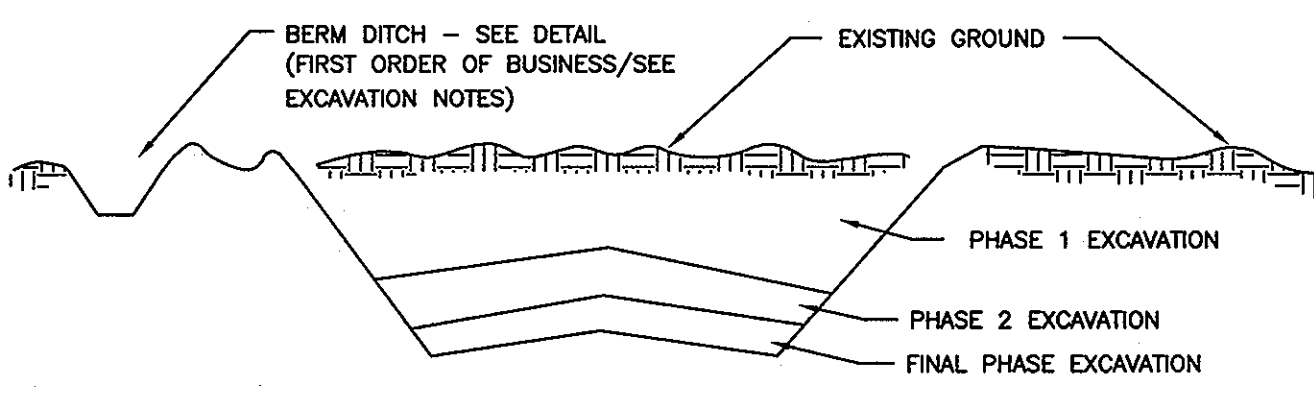

Figure 4 Incremental Stabilization - Cut
- i. A mulch anchoring tool is a tractor drawn implement designed to punch and anchor mulch into soil surface a minimum of two (2) inches. This practice is most effective on large areas, but is limited to flatter slopes where equipment can operate safely. If used on sloping land, this practice should be used to the contour if possible.
- ii. Construction sequence (refer to Figure 4 below):
- a. Excavate and stabilize all temporary swales, side ditches, or berms that will be used to divert runoff around the fill. Construct Slope Silt Fence on low side of the area as shown in Figure 4, unless other methods shown on the plans address this area.